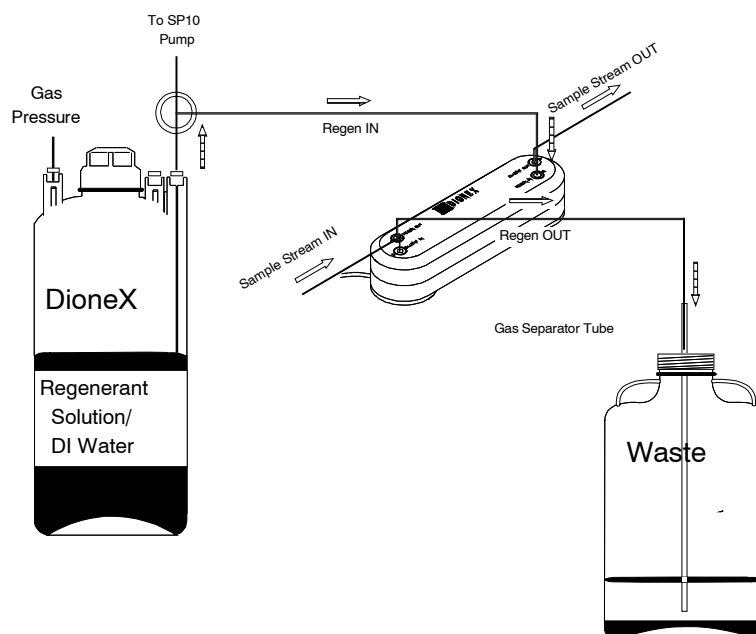

Figure 7
3. Push one end of the second piece of 1/8" OD tubing over the other barbed fitting of the regulator. Push the other end of this tubing over the barbed fitting (P/N 030077) in the pressure inlet of the plastic reservoir. (see Figure 7, “Configuration of the Pressurized Water Reservoir and the Gas Separator Waste Tube with the Self-Regenerating Neutralizer”).
1. See Figure 7, “Configuration of the Pressurized Water Reservoir and the Gas Separator Waste Tube with the Self-Regenerating Neutralizer.”
3. Push one end of the second piece of 1/8" OD tubing over the other barbed fitting of the regulator. Push the other end of this tubing over the barbed fitting (P/N 030077) in the pressure inlet of the plastic reservoir. See Figure 7, “Configuration of the Pressurized Water Reservoir and the Gas Separator Waste Tube with the Self-Regenerating Neutralizer”.
Assemble and install the **Gas Separator Waste Tube** and waste line following the steps below (see Figure 7, “Configuration of the Pressurized Water Pump and the Gas Separator Waste Tube with the Self-Regenerating Neutralizer”).
- A. Use one or two couplers (P/N 045463) to connect two or three lengths of 1/2" ID black polyethylene tubing (P/N 045462) depending of the depth of your waste container. It is important that the top of the Waste Separator Tube extend above the top of the Waste container as shown in Figure 7, “Configuration of the Pressurized Water Reservoir and the Gas Separator Waste Tube with the Self-Regenerating Neutralizer.”
- B. Place the Gas Separator Waste Tube with the 1/8" OD tubing attached into the waste container. Be sure that the bottom of the Gas Separator Waste Tube is resting on the floor of the waste container and the top of the device (where the white 1/8" OD tubing meets the black 1/2" OD tubing) is above the top of the container. Ensure that the Gas Separator Waste Tube and the waste container are open to the atmosphere (see Figure 7, “Configuration of the Pressurized Water Reservoir and the Gas Separator Waste Tube with the Self-Regenerating Neutralizer”).